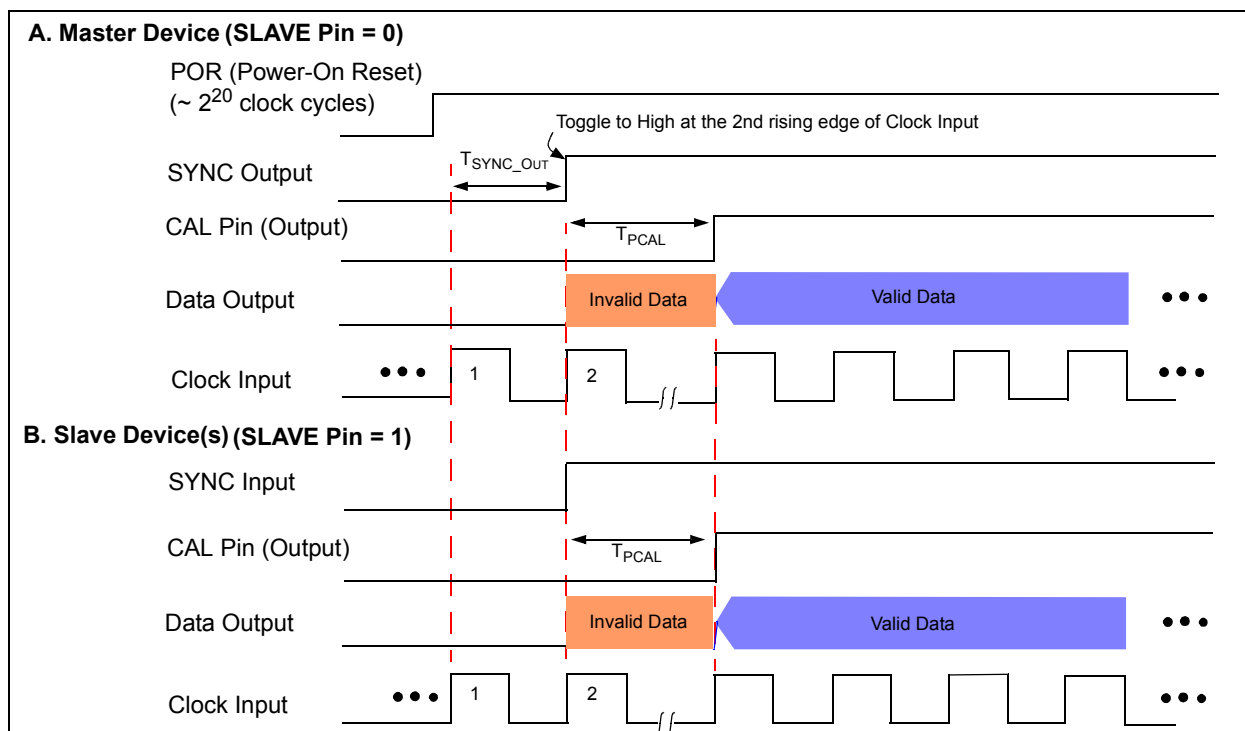

FIGURE 2-9: Sync Timing Diagram with Power-On Reset.
- 6:** Characterized with a single slave device. The maximum ADC sample rate for AutoSync mode may be reduced if multiple slave devices are used. See Figure 2-9 - Figure 2-11, and Figure 4-27 for details.